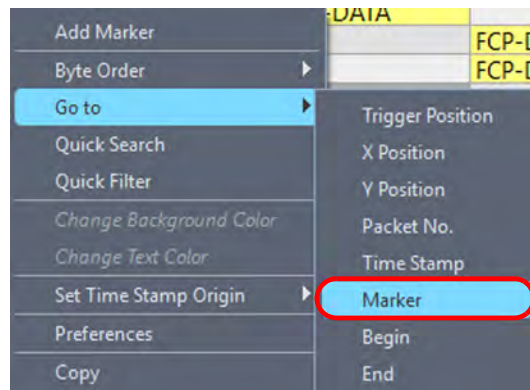

Figure 5.30: Go to Marker Window
1. Right-click the mouse in the trace viewer and select **Go to → Marker** (Figure 5.30).